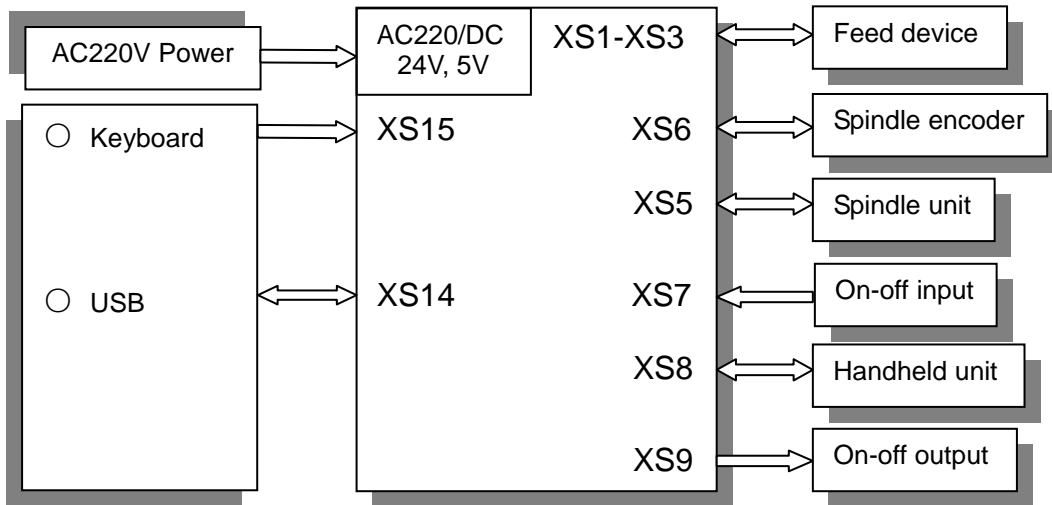

Figure 2-1 Total Connection Diagram
- (1) Interfaces are all optional except that of power supply.
- (2) As it is shown Figure 2-1, HNC-180 controls various types of feed units through XS1-XS3.
- (3) The type of feed units can be same or not. Up to three feed axes can be connected.